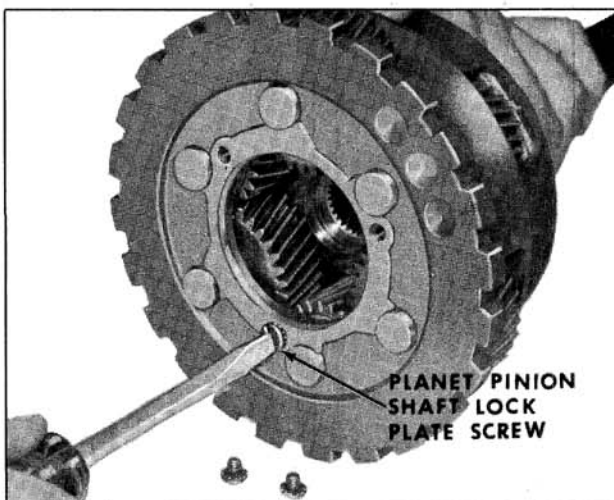

Fig. 6-477 Installing Lock Plate Screws
13. Install three planet pinion shaft lock plate screws and lockwashers. (Fig. 6-477)